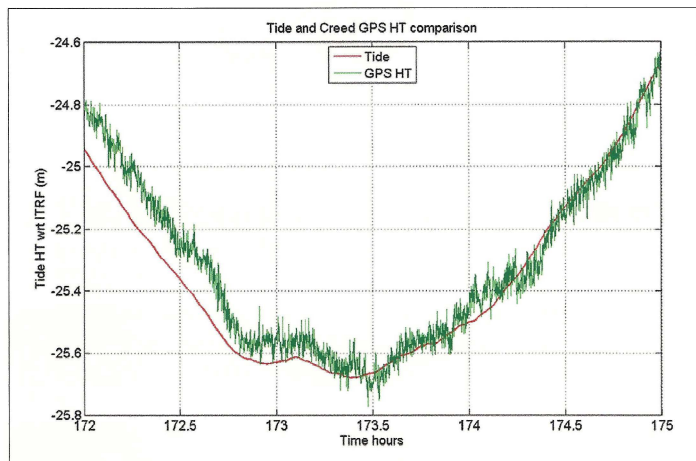

Figure 2: Creed and Saint John Gauge Comparison. Mean = 0.031m, standard deviation = 0.074m (1 σ)
3. Compare GPS WL to SJ Tide Gauge using Matlab routine (Figure 2)